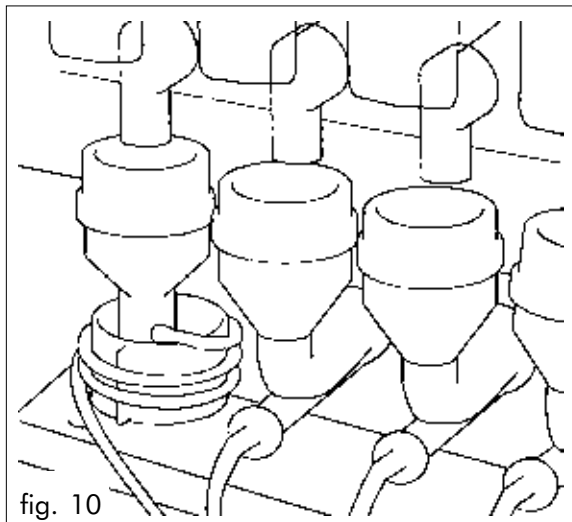

fig. 10
- If present, the motor-mixer is activated (fig.10).